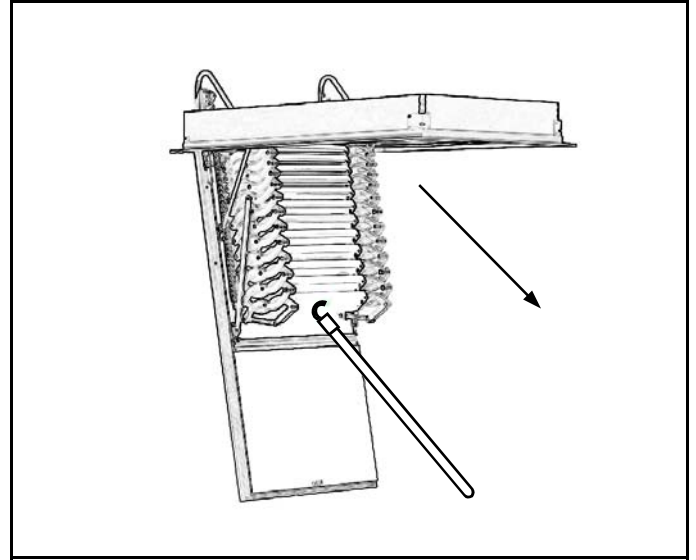

Figure 9
2. Insert hook into ring under first tread and pull slightly away from door to start unfolding stair. Figures 9 & 10. (**Never pull straight down as the stabilizer arm must swing steps out and away from door before it can be pulled straight down.**)